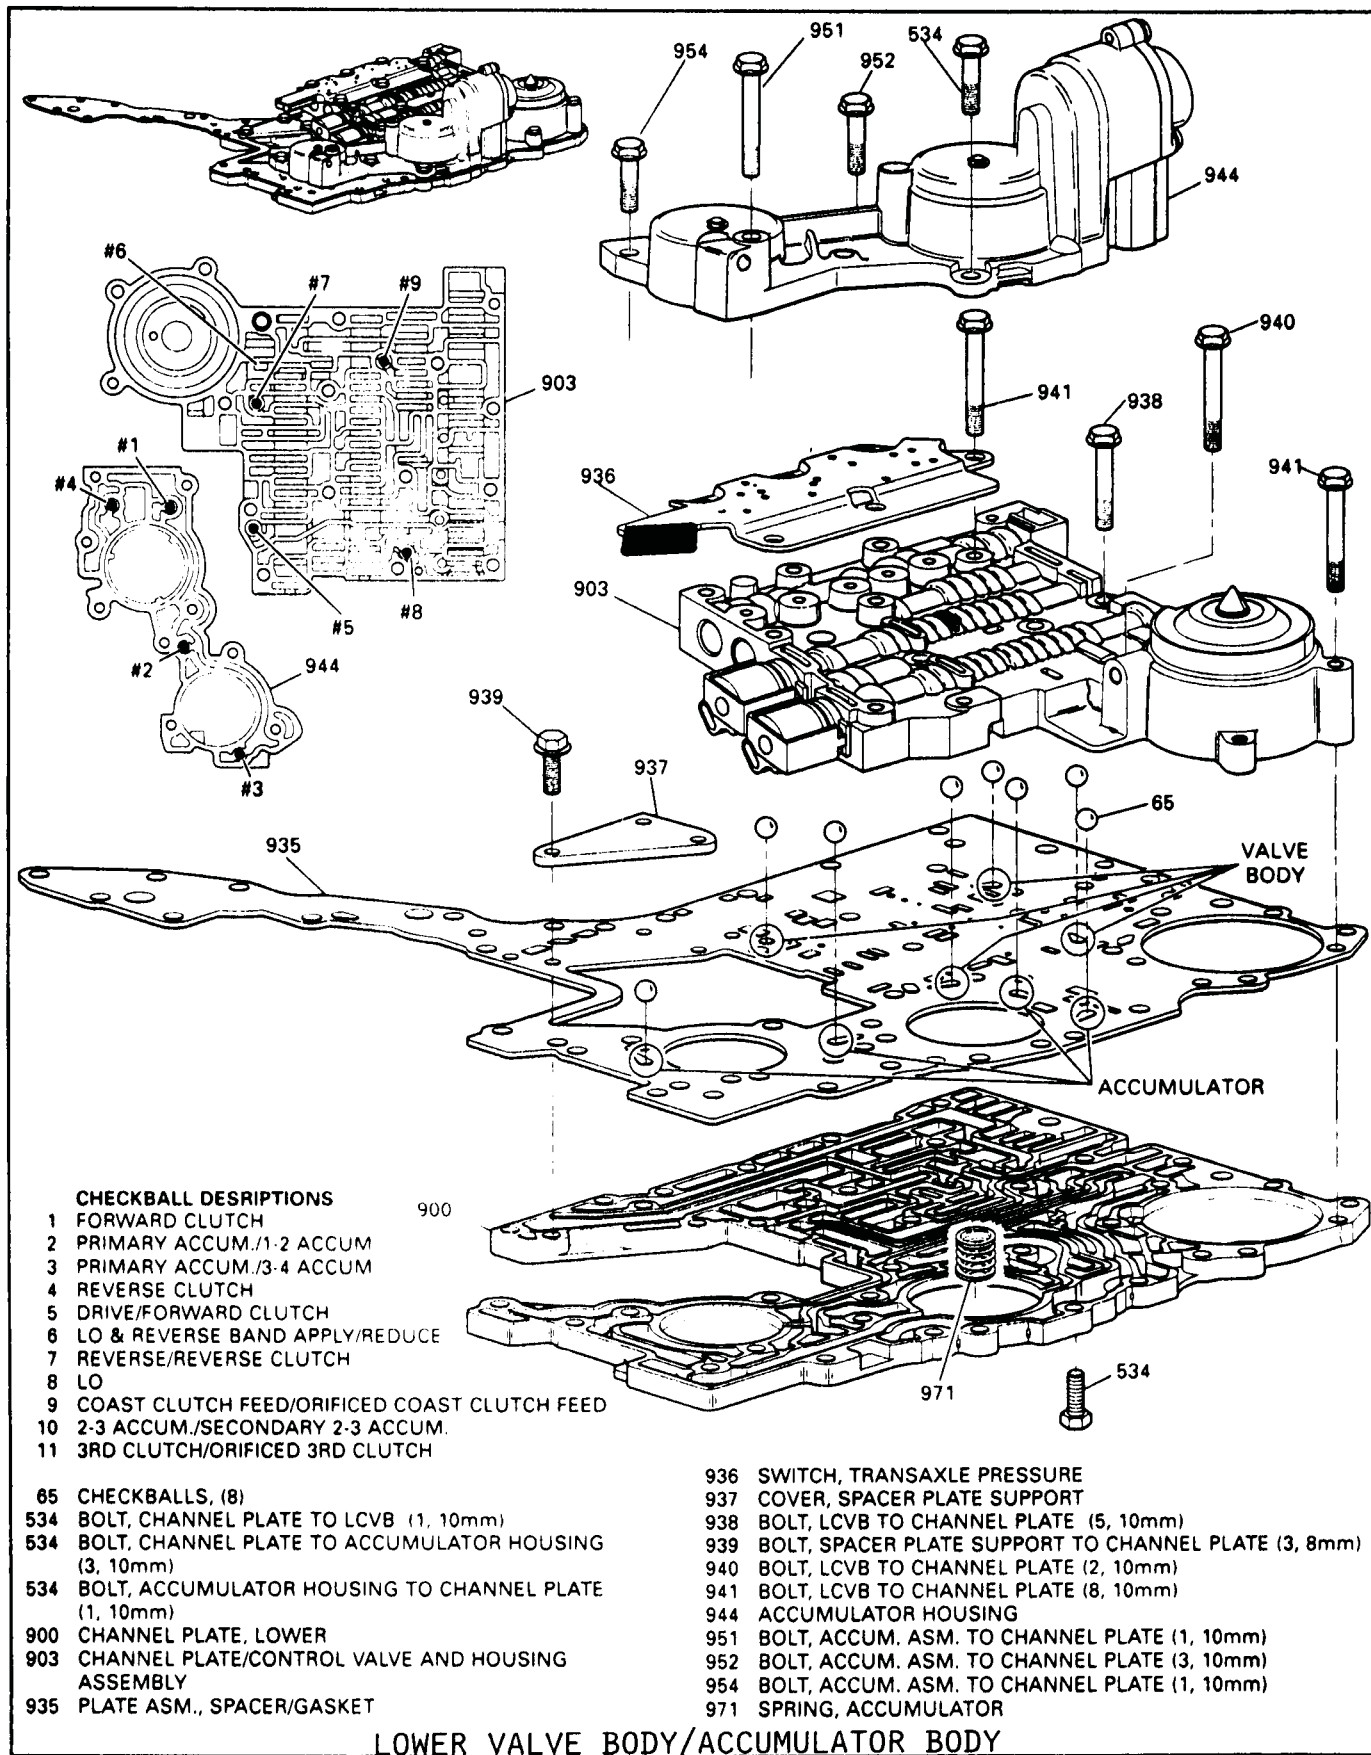

FIGURE 79
4. Use Figures 79 and 80 to disassemble the accumulators.
5. Inspect and clean all components in Figures 79 and 80.
6. Inspect the spacer plate/gaskets(935) as shown in Figure 79.